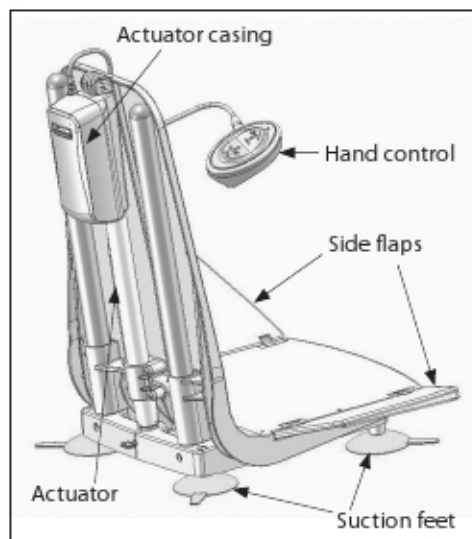

Figure 2
- Run water to any level under the actuator casing (**fig 2**).